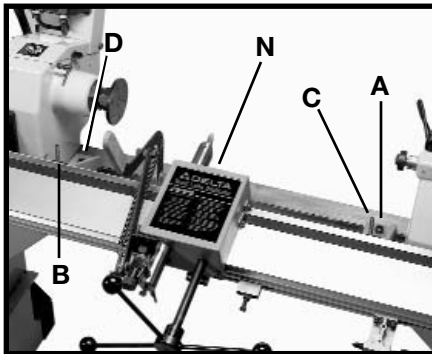
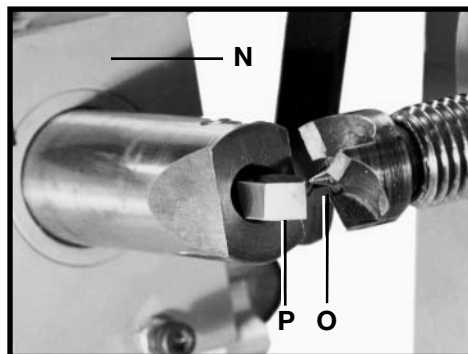
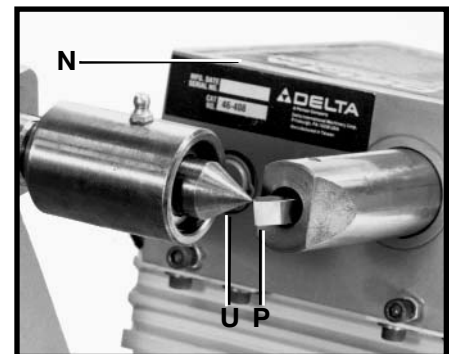
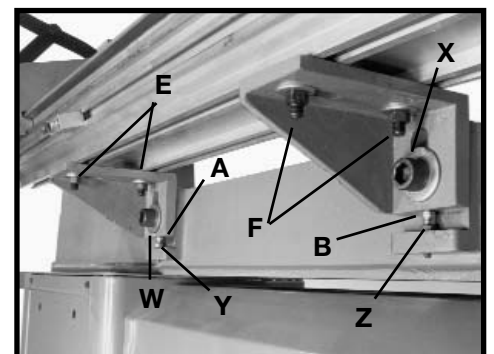

Fig. 53
Fig. 54
Fig. 55
Fig. 56
10. Loosen two socket head bolts (A) & (D) Fig. 53, move duplicator carriage (N) Fig. 53 to the left until point of cutting tool (P) Fig. 54 is on the same plane as the point of the headstock center. Slide duplicator in or out until point of cutting tool (P) Fig. 54 is aligned vertically with point of headstock center (O). Snug-up the left socket head bolts (D) Fig. 53.
- A. Move duplicator carriage (N) Fig. 53 to the right until point of cutting tool (P) Fig. 55 is on the same plane as the point of the tailstock center (U). Slide duplicator in or out until point of cutting tool (P) is aligned vertically (up or down) with point of tailstock center (U).
- B. Lightly tighten socket head bolt (A) Fig. 53. Recheck for vertical alignment of cutting tool with the point of the headstock and tailstock centers. Tighten both socket head bolts (A) & (D).
- C. Move carriage assembly (N) Fig. 54 to the headstock until point of cutting tool (P) Fig. 54 is on the same plane (up or down) with headstock center (O).
- D. If the point of cutting tool (P) Fig. 54 is not contacting headstock center (O), turn leveling screw (B) Fig. 53 clockwise or counter-clockwise to raise or lower cutting tool until the edge of cutting tool (P) Fig. 54 contacts headstock center (O).
- E. Move the carriage assembly (N) Fig. 53 to the tailstock until the point of cutting tool (P) Fig. 55 is on the same plane with tailstock center (U).
- F. If the point of cutting tool (P) Fig. 55 is not contacting tailstock center (U), turn leveling screw (C) Fig. 53 clockwise or counter-clockwise to raise or lower cutting tool until the edge of cutting tool (P) Fig. 55 contacts tailstock center (U).
- H. After alignment is complete, remove leveling screws (B) and (C) Fig. 53.
- I. Firmly tighten mounting bolts (A) & (D) Fig. 53.
10. Loosen four socket head bolts (E) and (F) Fig. 56. Move duplicator carriage (N) Fig. 54 to the left until point of cutting tool (P) is in the same plane with point of headstock center (O). Slide duplicator (N) Fig. 53 in or out until point of cutting tool (P) Fig. 54 is aligned vertically with point of headstock center (O). Snug-up socket head bolt (E) Fig. 56.
- A. Move duplicator carriage (N) Fig. 53 to the right until point of cutting tool (P) is in the same plane with point of tailstock center (U). Slide duplicator (N) Fig. 53 in or out until point of cutting tool (P) Fig. 55 is aligned vertically with point of tailstock center (U). Snug up socket head bolts (F) Fig. 56. Recheck to make certain point of cutting tool is aligned vertically (up or down) with point of the headstock and tailstock centers. Tighten four socket head bolts (E) and (F) Fig. 56.
- B. Move duplicator carriage (N) Fig. 53 to the headstock until point of cutting tool (P) Fig. 54 is on the same vertical plane with headstock center (O).
- C. If the point of cutting tool (P) Fig. 54 is above or below the headstock center (O), loosen two bracket bolts (W) and (X) Fig. 56. Loosen locknut (Y) and turn leveling screw (A) Clockwise or counter-clockwise to raise or lower the point of the cutting tool until it contacts the center point.
- D. Move the duplicator carriage (N) Fig. 53 to the tailstock until the point of cutting tool (P) Fig. 55 is on the same plane with tailstock center (U). Loosen locknut (Z) Fig. 56 and turn leveling screw (B) clockwise or counter-clockwise to raise or lower the point of the cutting tool until it contacts the center point.
- F. Firmly tighten two locknuts (E) Fig. 56. Tighten mounting bolts (W) & (X), Fig. 56.